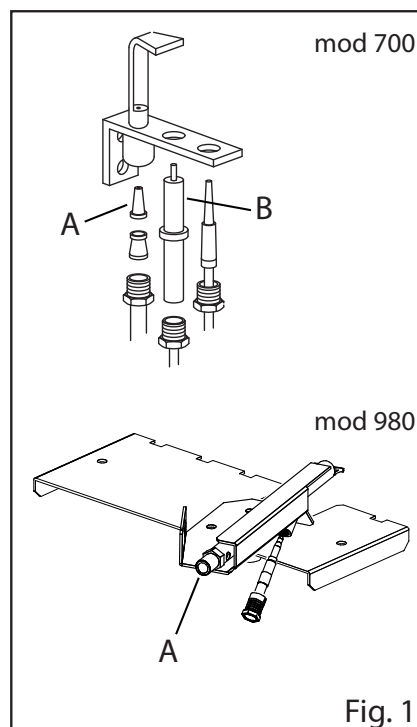

Fig. 1
- Replace the pilot injector (Fig. 1/A) with that which corresponds to the selected gas as indicated in the Reference table.
- Replace the injector (Fig. 1) with the one corresponding to the selected gas according to what reported in the reference Table.